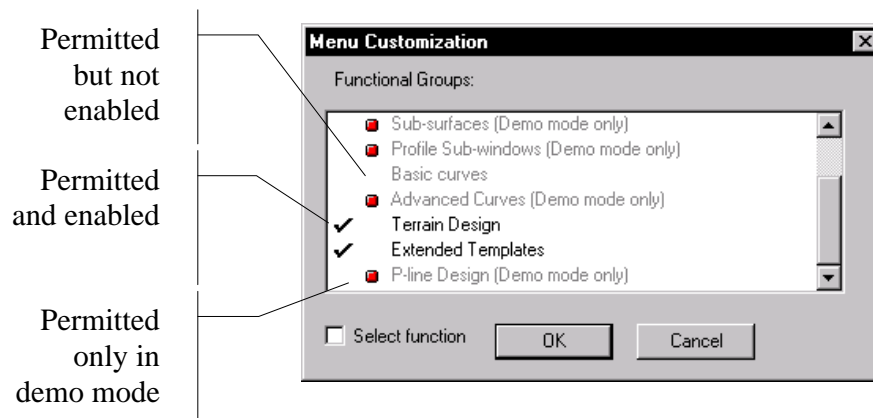

Figure 1.0: Function Groups Displayed in the Menu Customization Dialog Box
- 2) Click on the *Menus* button to activate the *Menu Customization Dialog* (see Figure 1.0).